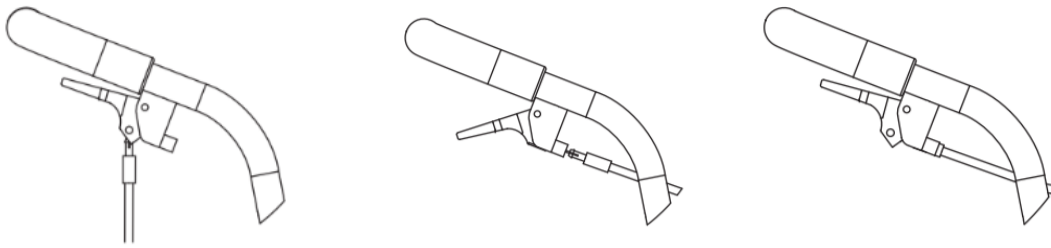

Figure 14.42: *Installing the cable*
5. Re-fit the metal cable end by inserting into the side of the trigger as shown in Figure 14.42 and feed the cable through to the trigger.